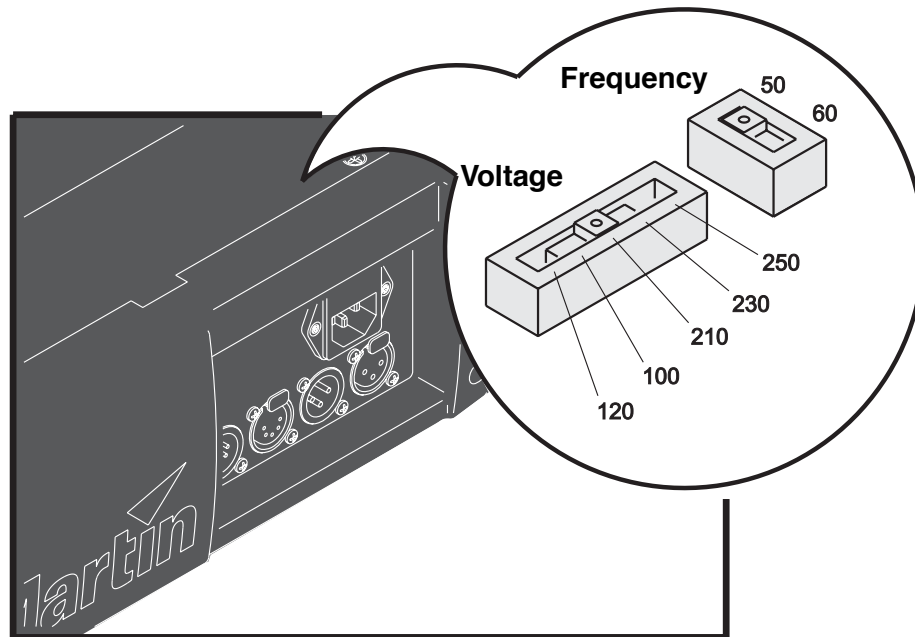

Figure 2: Power supply settings
2. Remove the 2 Phillips screws in the access cover directly behind the power and data connectors (see Figure 2). Lift off the cover.